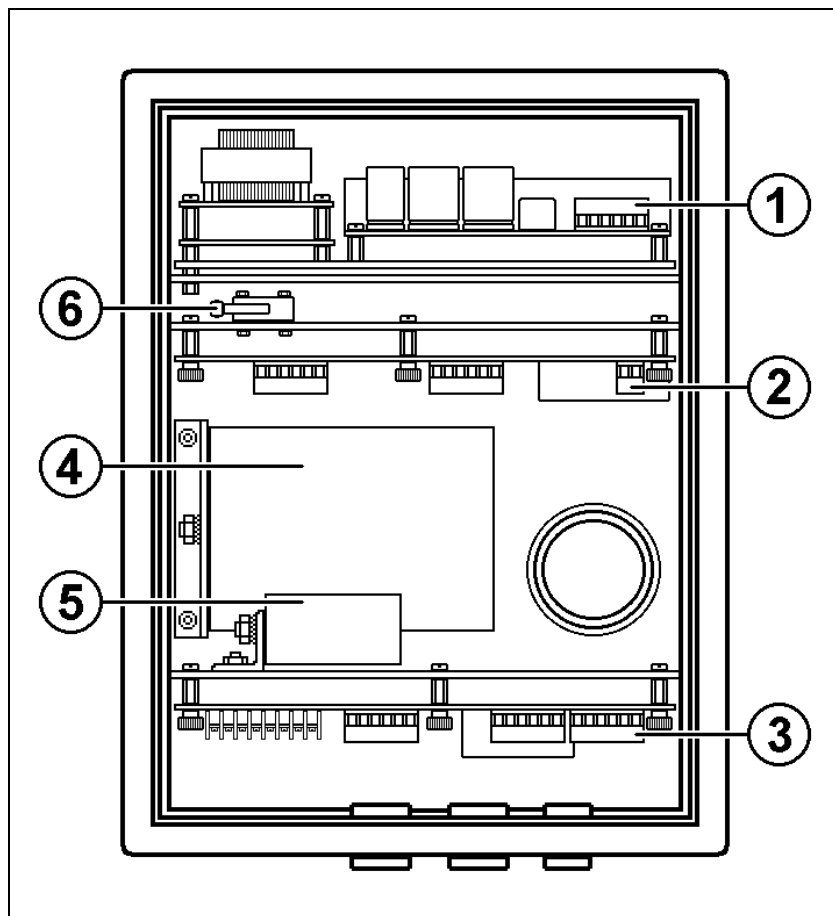

FIG 4
The F30 Power Supply Box contains (see Fig 4) :
1) Open the power supply box (see **Fig 4**).
III) Push on the security switch (see **(6) Fig 4**) of the power supply box.
4) The F30 power off, check the capacitance of the power capacitors (see **(4 and 5) Fig 4**) with a capacimeter. If the capacitance of one of the capacitors does not correspond with the capacitance write on its marking, change the capacitor.